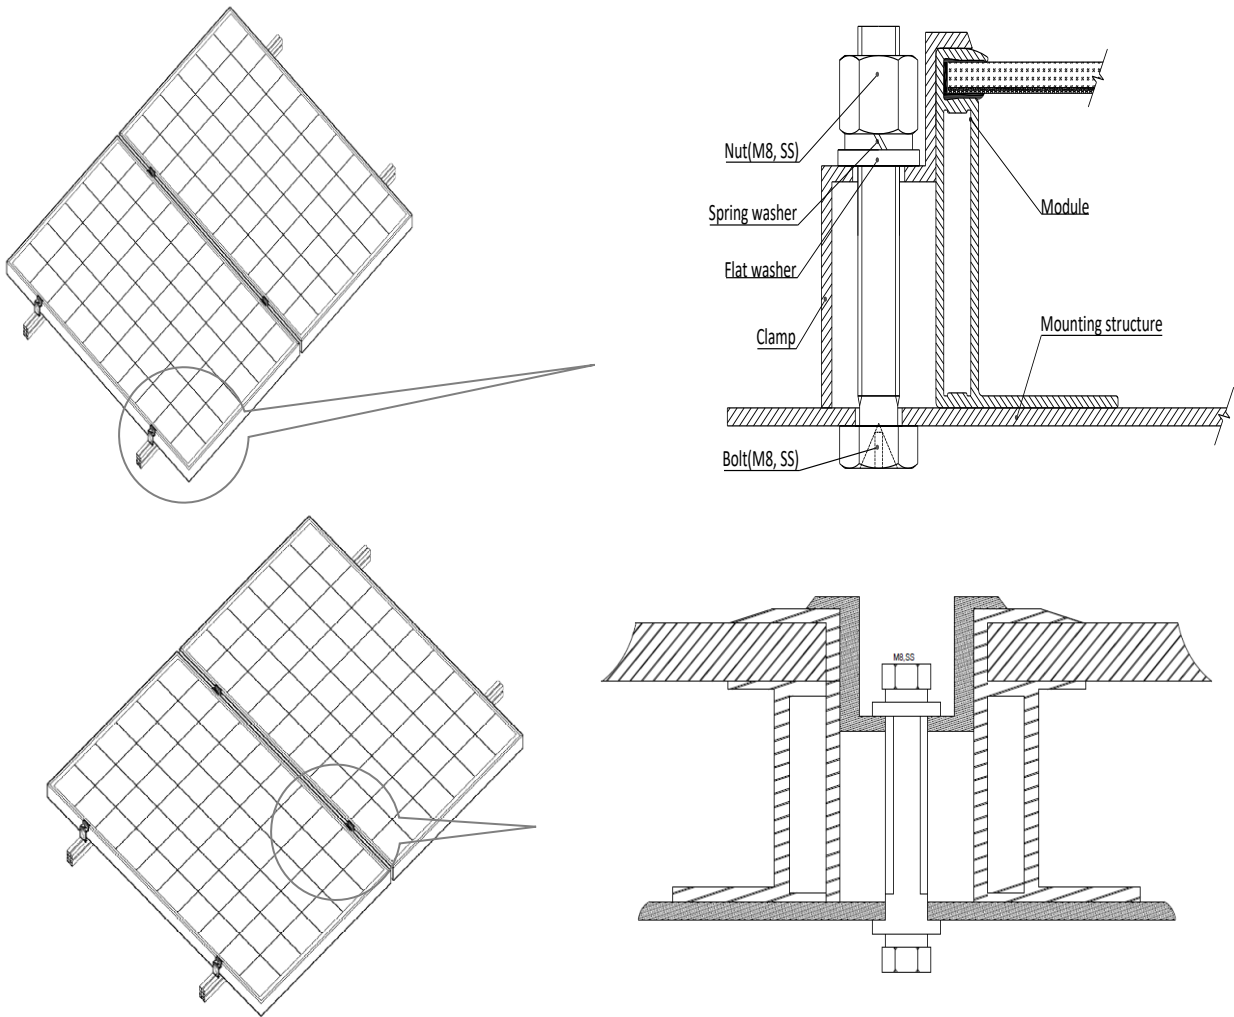

figure2
- ✓ Clamping system: choose the right fixture to fix the module on the support frame, show in figure2